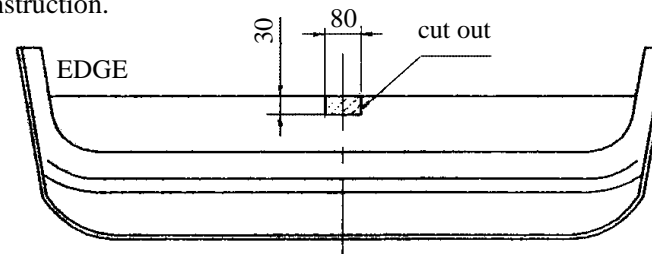

Fig. 2
2. To right chassis member fix bracket (pos. 5) using bolts M10x1,25x35mm (pos. 9) through holes (pos. A - loosely).
3. To left chassis member fix bracket (pos. 4) using bolts M10x1,25x35mm (pos. 9) through four holes (loosely), and through hole (pos. B) bolt M10x30mm (pos. 10). Use handle with nut M10 (pos. 6).
4. Between brackets (pos. 4 and 5) slip main bar of the towbar (pos. 1) and fix using bolts M12x35mm (pos. 8).
- rear muffler handle to element (pos. 5) through holes (pos. C).
- bumper, after his cut (see fig. 2.)
7. Fix body of the automat (pos. 20) and the socket plate (pos. 3) using bolts M12x25mm (pos. 7) from accessories. Place tow-ball (pos. 2) according to supplied instruction.